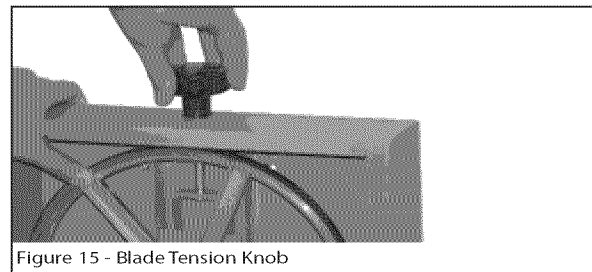

Figure 15 - Blade Tension Knob
- Loosen the blade tension by turning the blade tension knob on the top of the upper wheel housing counterclockwise until the saw blade has slackened (viewed from above). See Figure 15.